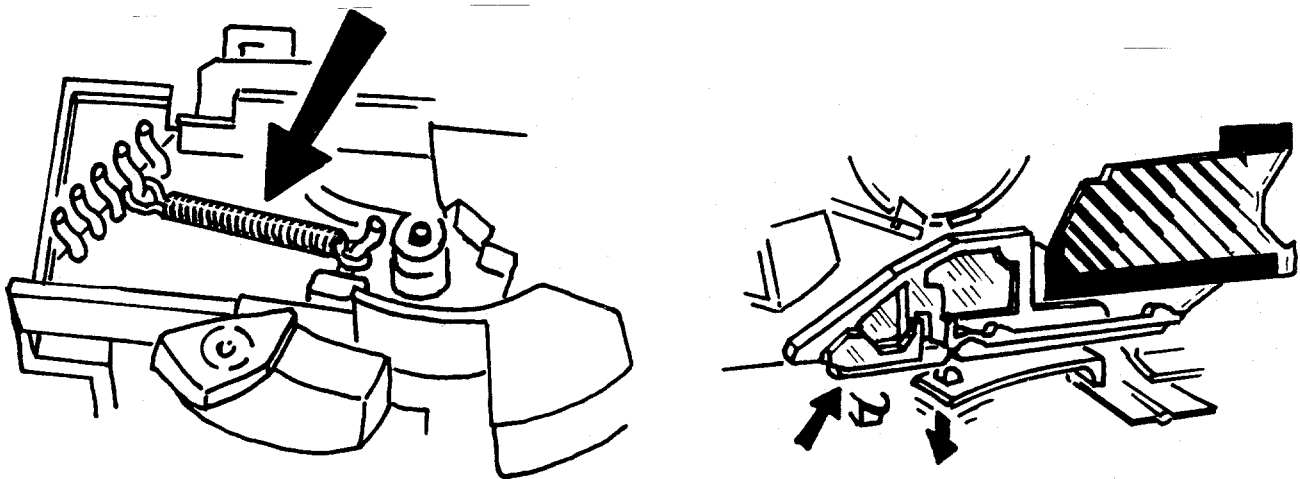

Fig. 18 Removing Opening Blade Spring & Trim Slide
19. With tweezers, remove Opening Blade Spring from rack and Base Block (Fig. 18), first noting which notch on the rack it's attached to and marking that notch to assure correct reassembly later.
20. Remove Trim Slide by depressing the tang along its lower edge (Fig. 18).